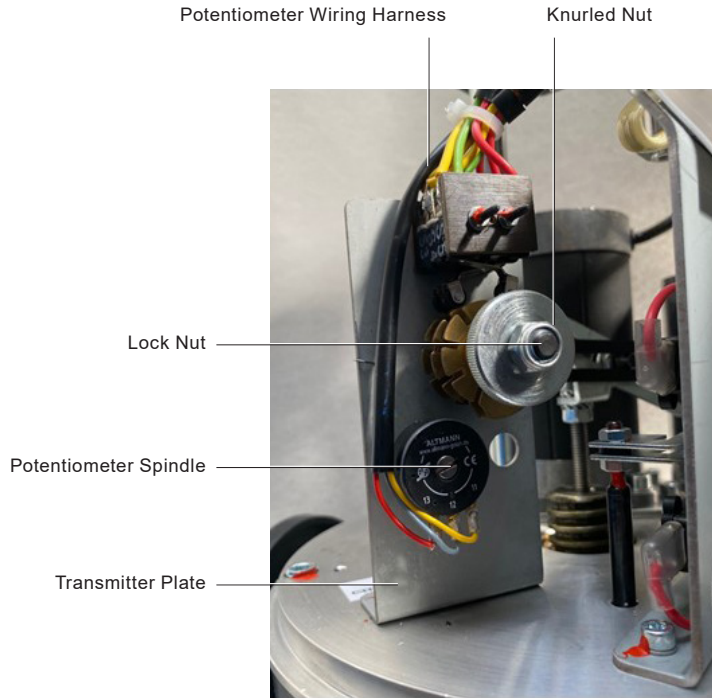

Fig. 13 Potentiometer Installation and Adjustment (8kN+)
- Refer to Figure 13 Potentiometer Installation and Adjustment (8 kN+) for product orientation